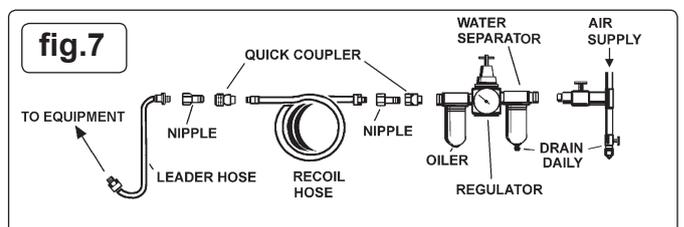

fig.7
- ☐ The recommended hook-up procedure is shown in fig.7.